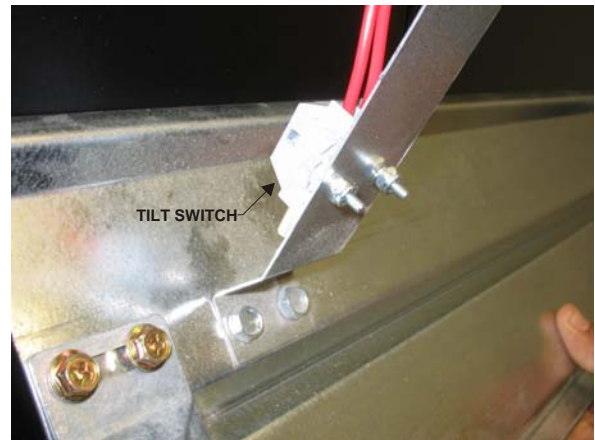

Figure 5
8. Locate the provided night set back "tilt switch" assembly (S168). Install this switch assembly to economizer damper assembly. Mount on the lower outside air damper blade, above the center "V" bend using provided self drilling screws. Position the switch as indicated in **Figure 5.** The tilt switch is to indicate when the outside air damper is in the closed position. The little can has a ball inside it. When you tip the end of the switch toward the leads downward, the ball rolls back toward the leads and makes contact. Tilting the end of the switch away from the leads down, causes the ball to roll back breaking the contact. The terminal strip provides a mean of mounting the tilt switch and a means of securing the switch assembly. Damper rotation trips the switch to determine ERS has a control signal to start.